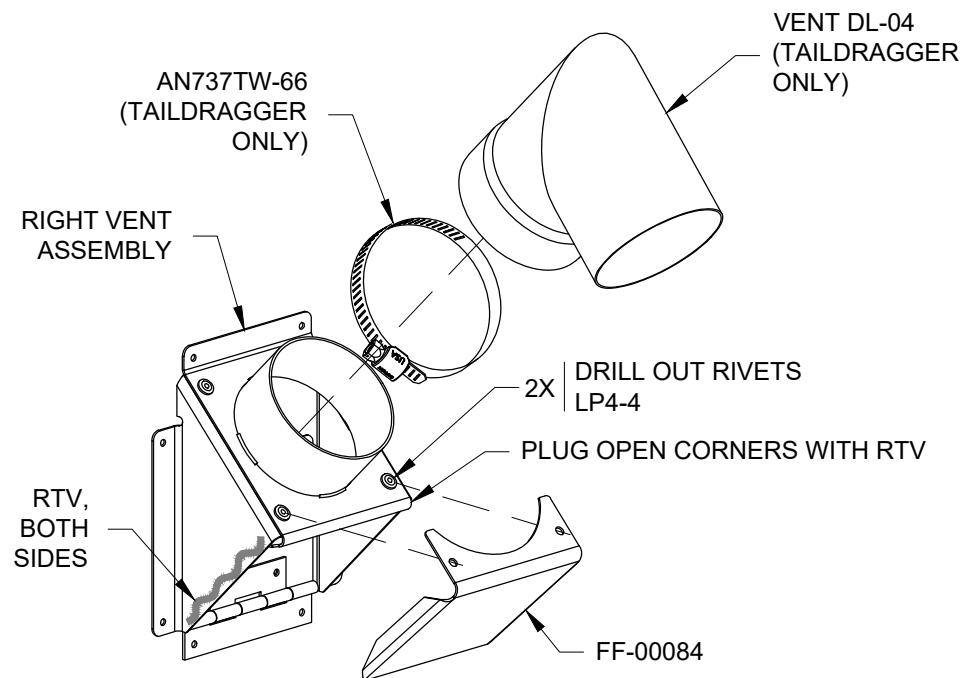

FIGURE 1: MODIFY RIGHT VENT ASSEMBLY
Step 1: Modify two EX-00004B Exhaust Support Tubes as shown in Figure 1.
Step 1: Modify the Right Vent Assembly as shown in Figure 1.